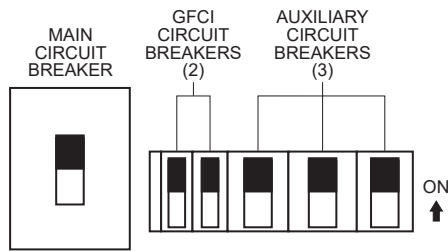

Figure 59. Main, Auxiliary, And GFCI Circuit Breakers (ON)
12. Place the **main, auxiliary, and GFCI** circuit breakers in the **ON** position (Figure 59).